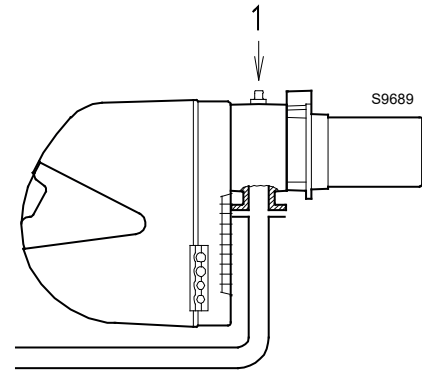

Fig. 29
Gas pressure measured at test point 1)(Fig. 29), with:
- subtract the combustion chamber pressure from the gas pressure measured at test point 1) (Fig. 29).
To calculate the required gas pressure at test point 1)(Fig. 29), with the output fixed at that required for the burner in the 2nd stage:
- Read, on the right (column 1), the pressure at the test point 1)(Fig. 29).
pressure required at test point 1)(Fig. 29).